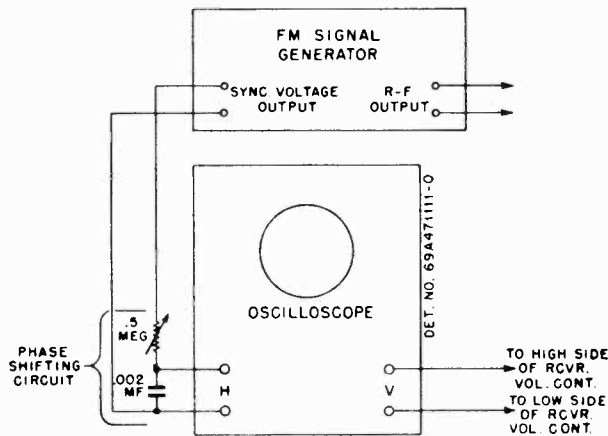

FIGURE 5. FM SIGNAL GENERATOR AND OSCILLOSCOPE HOOK-UP
3. Connect the FM signal generator sync voltage output terminals, through a phase shifting network, to the horizontal input terminals of the scope, as in Figure 5. (Other values of resistance and capacitance